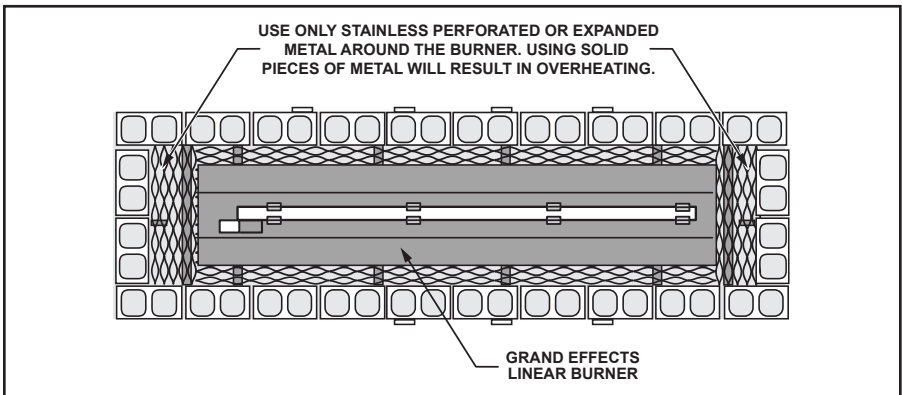

Figure 20. Over-sized Burner Cavity Installation
10. If the inside trough dimensions (width x length) are larger than suggested dimensions. Then builder will need to support Burner Assembly with cross member supports. The extra gap around burners will need to be filled in with expanded or perforated stainless metal so that decorative media does not fall through as shown in Fig. 20.